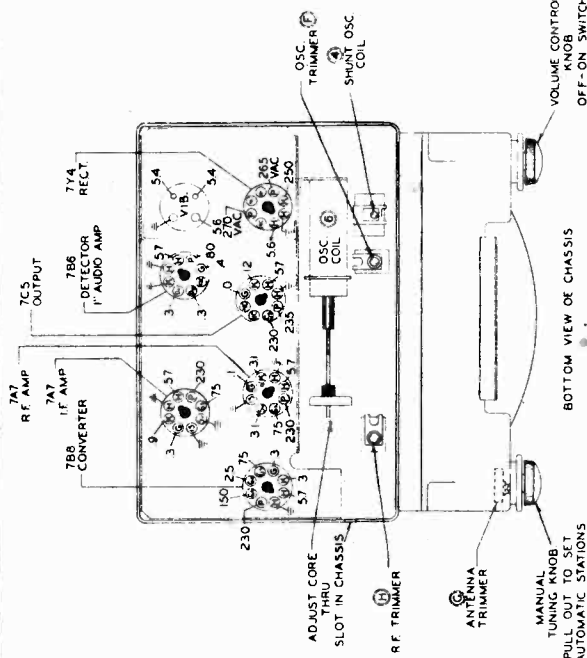

FIG. 8
- 5—Set the oscillator trimmer (F—Fig. 8) at 1640 Kc.
- 6—Peak the R.F. and antenna trimmers (G and H—Fig. 8) for maximum output reading.
- 9—Adjust the oscillator core (6—Fig. 8) to scale at 1200 Kc.
- 12—"Rock in" the Shunt oscillator core (4—Fig. 8) for maximum output reading. (Same as rocking in the paddler condenser on a ganged condenser receiver.)
Figure 8 shows the approximate voltages as measured with a 1000 ohm per volt meter measured between the socket terminals and the chassis. Volume control set at maximum with no signal. Battery Voltage—6.3.